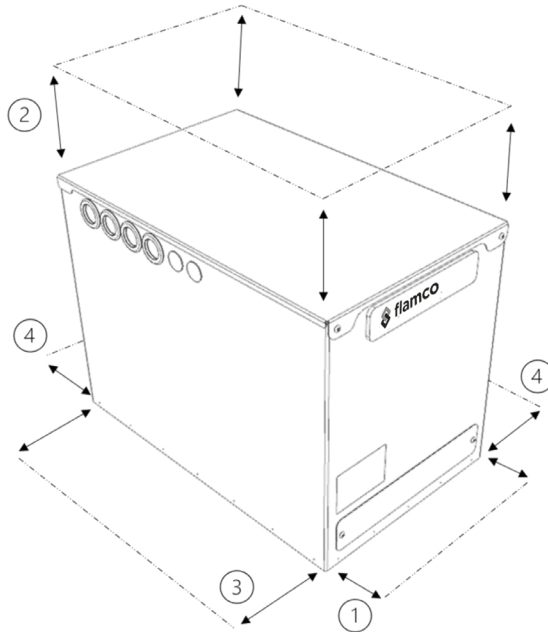

Figure 4 - Flextherm Eco G2 E heat battery spatial requirements
- Assess the location where the Heat Battery will be installed, for the spatial & clearance requirements of the Heat Battery (Figure 4, Table 5).